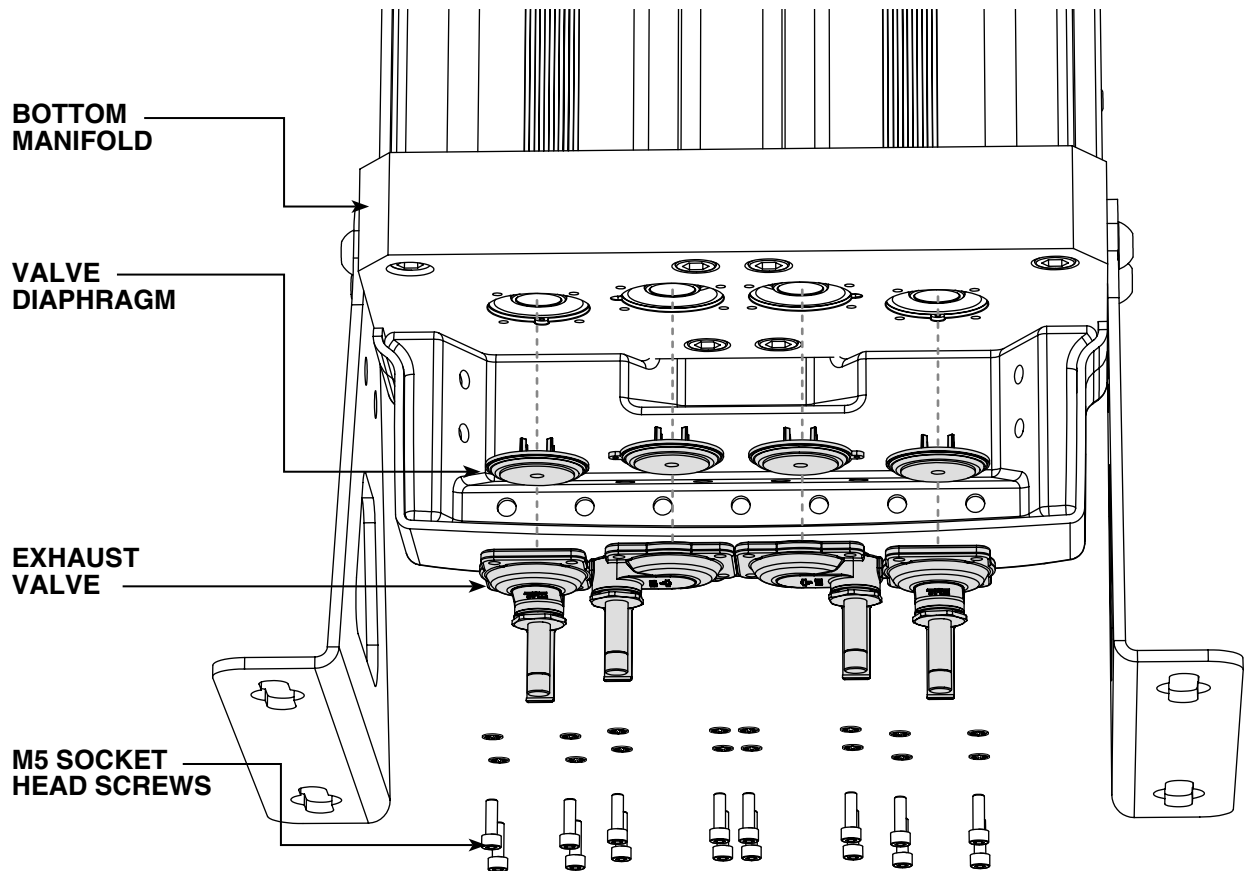

Figure 4.
4. Remove the 16x M5 socket head screws and the 16x spring washers and discard them. Remove and discard the exhaust valve bodies from the bottom manifold. (See Figure 4)
5. Remove and discard the 4x diaphragms from the bottom manifold. (See Figure 4)
6. Replace the 4x diaphragms and 4x exhaust valves from the service kit and replace the 16x M5 socket head screws and spring washers from the service kit and tighten to a torque setting of 6Nm. (See Figure 4)